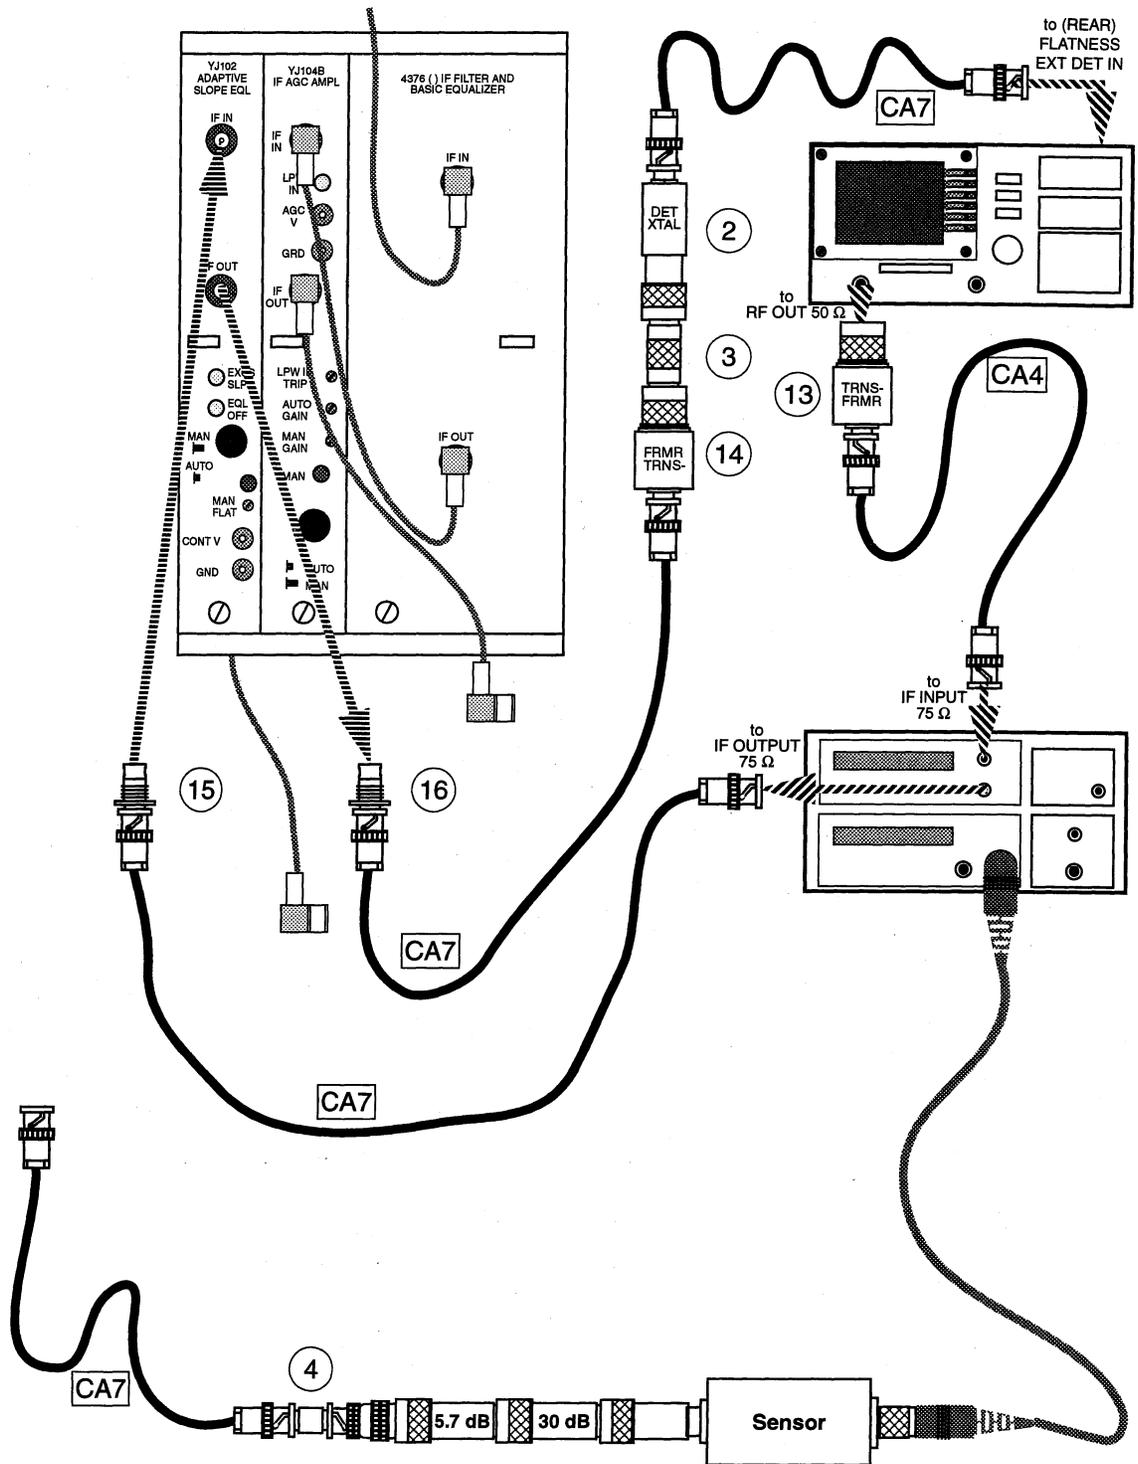

Figure 23. ASE Amplitude vs. Frequency Response
- 14 Connect the test equipment as shown in Figure 23.